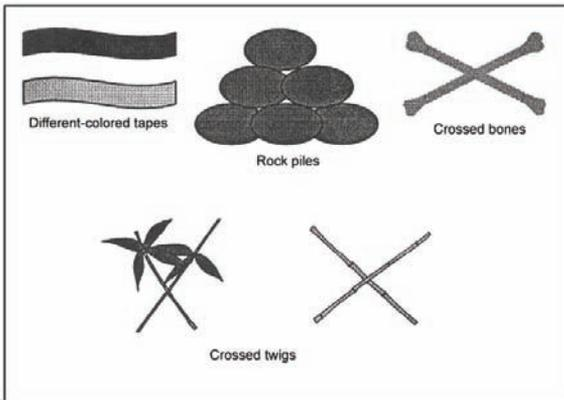
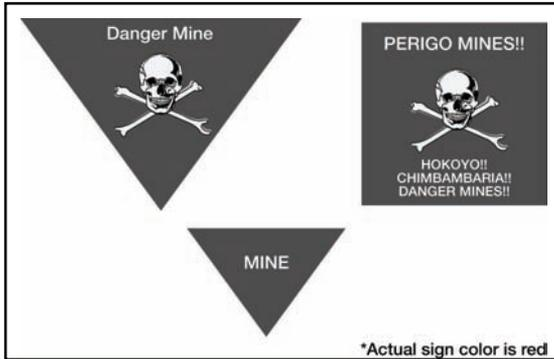

Figure 052-192-1269-1. Examples of explosive-hazard markers
Figure 052-192-1269-2. Example of mine signs
**(1)** Check for improvised markings of mines, booby traps, IEDs, and UXO (figure 052-192-1269-1). Look for—
*Note:* For example, start point (SP), indicating the minefield start point. Internationally recognized humanitarian demining reference markers, such as reference point (RP) and benchmark (BM). Minefields will be within visual distance of these markers.
**(2)** Check for manufactured markings of mines, booby traps, IEDs, and UXO (figure 052-192-1269-2). Look for—